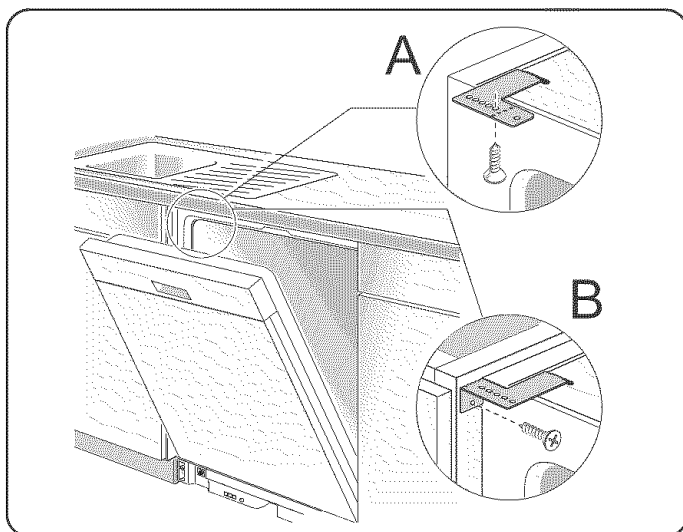

Figure 11
- 1) **Top Mount** is used for countertops made of wood or other materials that can easily drilled. Orient the mounting brackets as shown in Figure 11, letter A, and position the two small tabs on the mounting brackets over the two slots on the dishwasher's front corners. Push the mounting brackets down firmly to insert the tabs into the slots.
- 2) **Side Mount** is used for countertops made of marble, granite, or other very hard materials that cannot be easily drilled. Bend the mounting brackets along the small holes and in the same direction as the two small tabs. Orient the mounting brackets as shown in Figure 11, letter B, and position the two small tabs on the mounting brackets over the two slots on the dishwasher's front corners. Push the mounting brackets down firmly to insert the tabs into the slots.